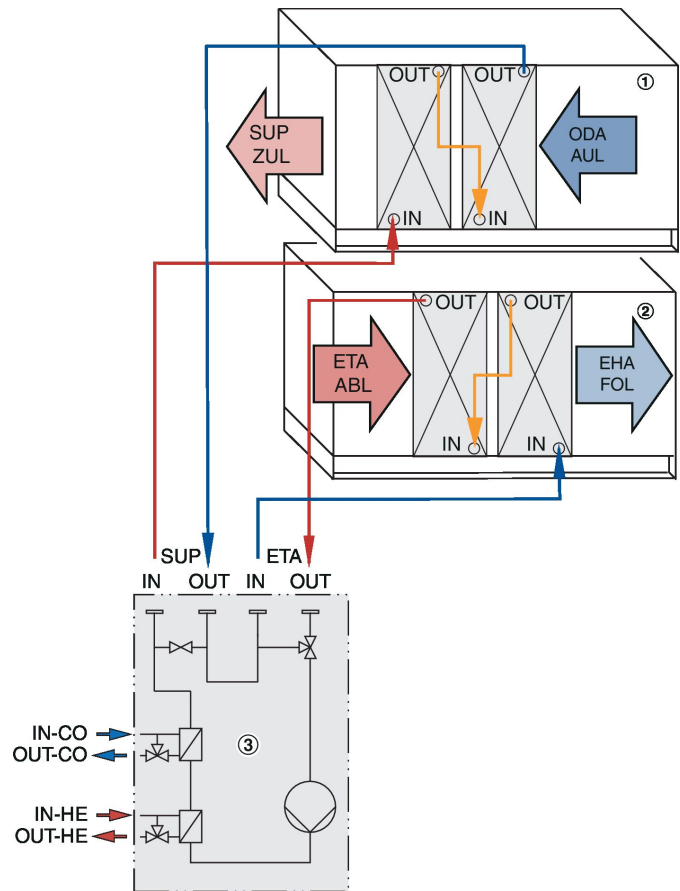

Fig. 21: Hydraulic system connection (example)
- ① Supply air unit
- ② Extract air unit
- ③ hydraulic unit
1. ▶ Connect the heat exchanger with the hydraulic unit (Fig. 21).
Make the required connections (Fig. 21).